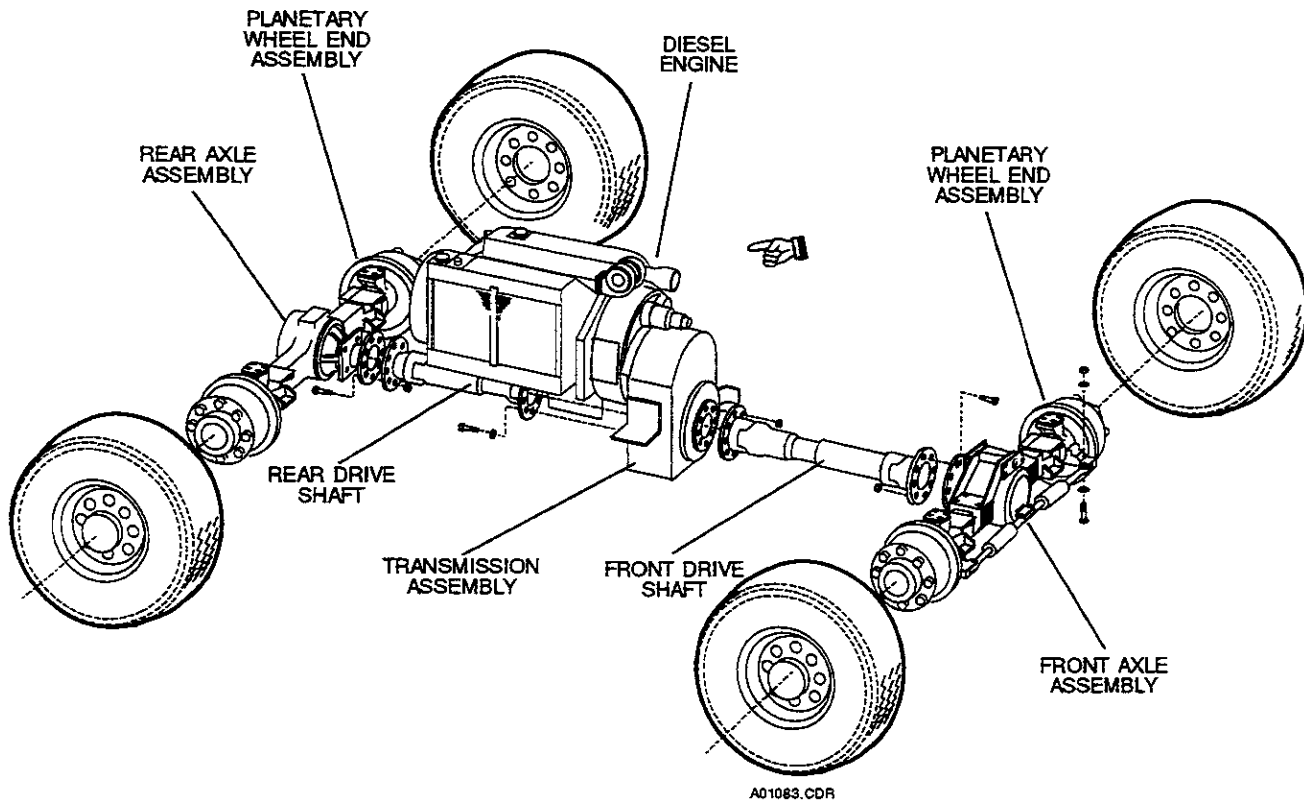

FIGURE 1.2 DRIVELINE ASSEMBLY
1.5.1 The engine is coupled to the transmission, which drives the front drive shaft and the rear drive shaft, as shown in Figure 1.2. The drive shafts transmit torque to the front and rear differentials. The axles from each differential transmit torque to the planetary wheel end assemblies.